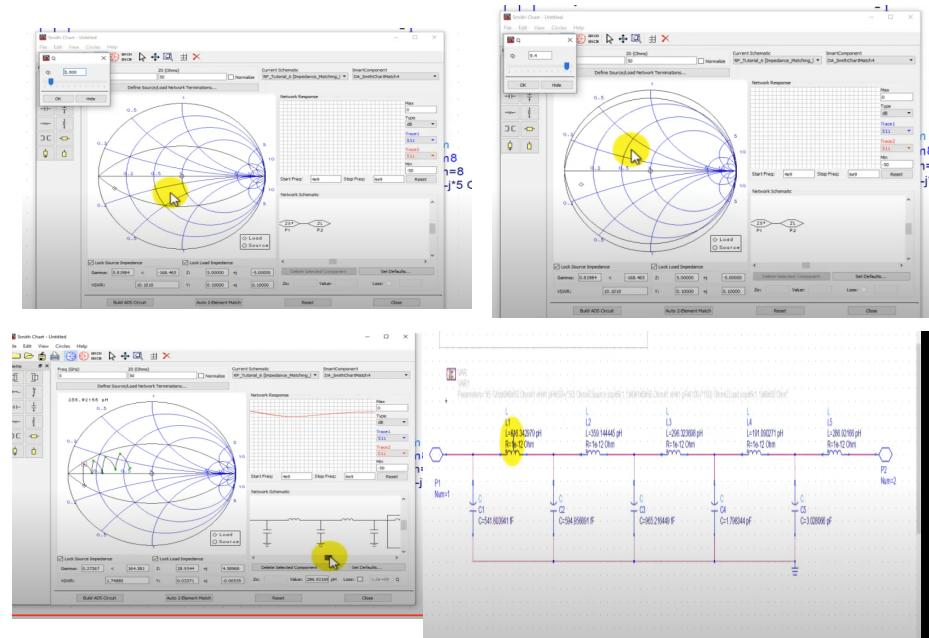

Figure 18: Smit important notes
**Broadband matching** here we use the q circles method or called the  $qfactor = centerfreq/BW$  then you will see a another graph at the middle of smith. as shown on fig. 18
Q factor is 1 if the you wotks on single freq higher q number means BW lesser and lesser and the circle increas the idea here is to make a smith inside the smith and you are only allowed to move only iside the smaller circle so every time you wanna change the directon you need a new component so the Match circuit will be many component not just an LC circuit as on the the graph fir 3 fig. 18